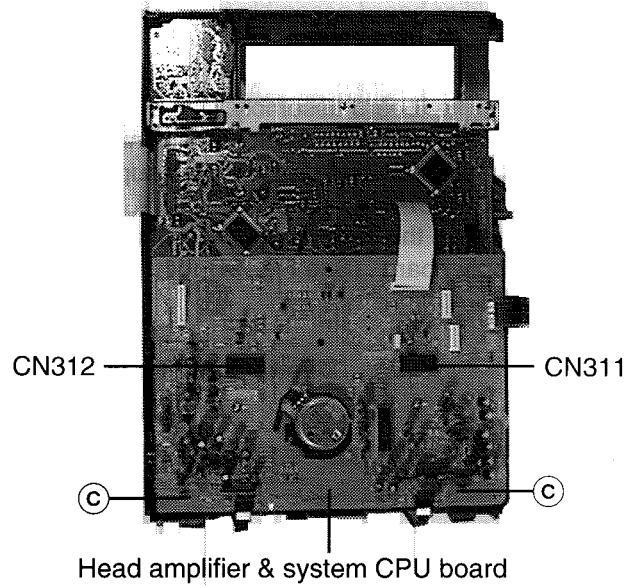

Fig. 16
8. Disengage the two engagements ③ to the head amplifier & system CPU board.(See Fig.16)
9. Lift upward the head amplifier & system CPU board, and disconnect the two connectors connected to mechanism control board from the connectors CN311, CN322.(See Fig.16)